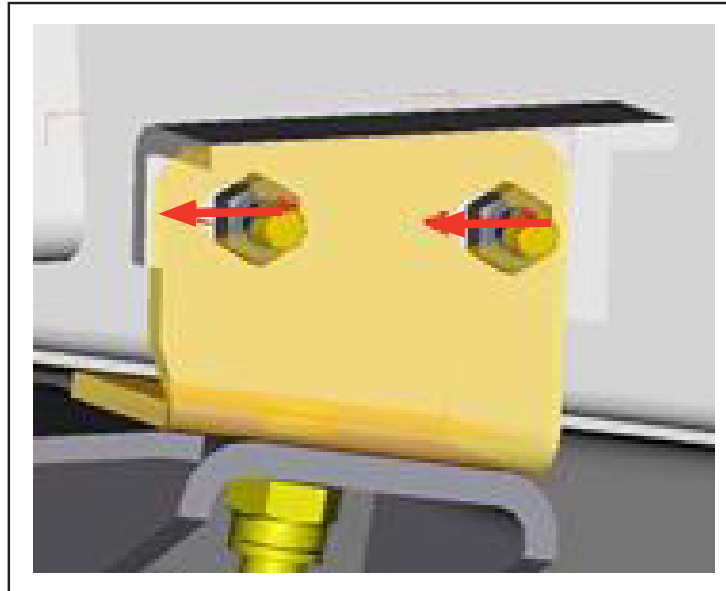

Figure 3 - Apply Thread Locker Loctite 243 to Screw M8x25
- 1.9. Use thread locker loctite 243 N97665 on Screw M8x25 N43774 (follow supplier instruction: see appendix section) (see figure 3).